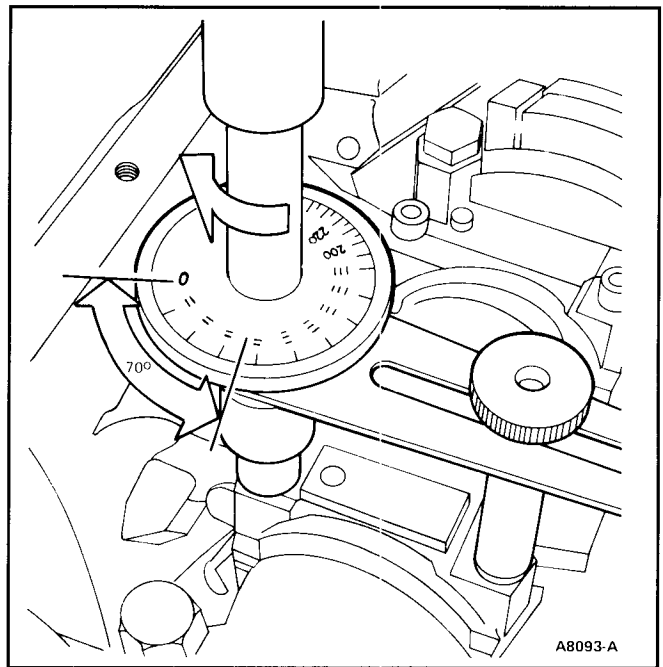

FIG. 62 Connecting Rod Cap Tightening
9. Install connection rod cap and bearing. Tighten connecting rod nuts alternately to 20 N·m (14 lb-ft). Then tighten nuts another 70 degrees of rotation (Fig. 62).